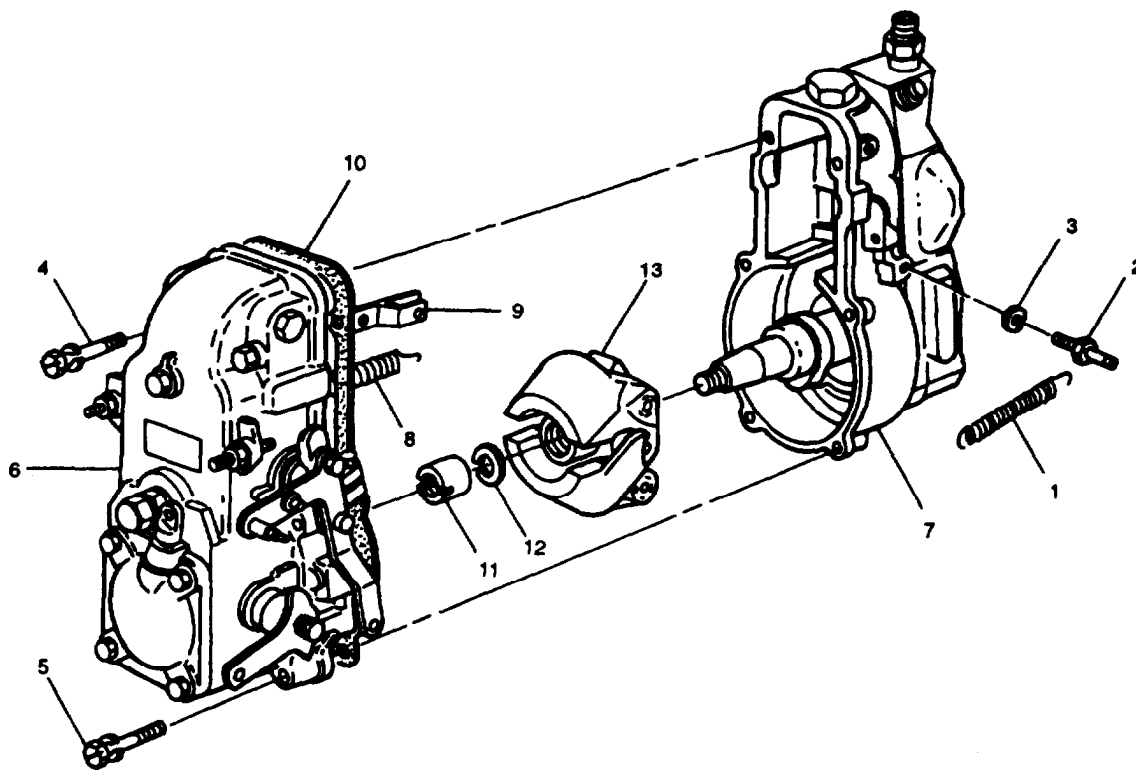

FIGURE 3-37. Removal of Mechanical Governor
- a. Disconnect and remove spring (1, FIGURE 3-37).
- b. Remove stud (2) and washer (3).
- d. Remove two screws (4) and four screws (5).
- e. Partially separate cover (6) from housing. While holding cover in place with one hand, disconnect spring (8) and link (9) from inside housing. This will allow separating cover (6) from housing.
- f. Remove gasket (10).
- g. Using a hammer and screwdriver, loosen and remove nut (11) and washer (12). Remove flyweight assembly (13).